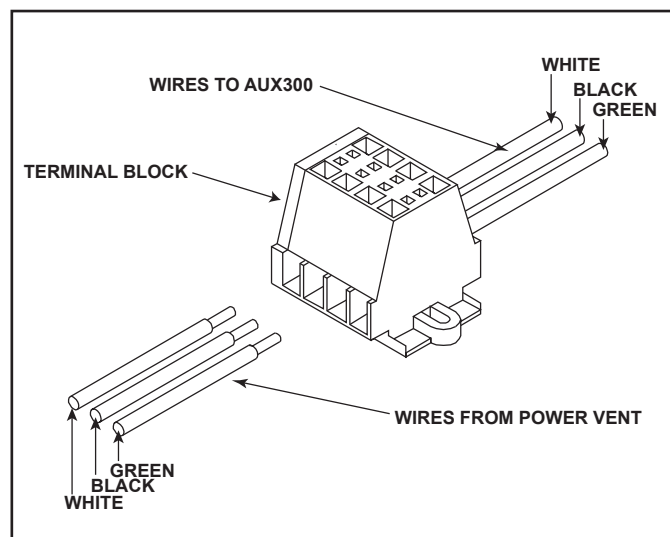

Figure 3. Terminal Block Detail
8. Connect the black, white, and green wires from the power vent assembly to the terminal block according to the wiring diagram. See Figure 3. Attach 1/4 inch male wiring connectors to red and brown wires from PVK-80 Power Vent. Place the PVK-80 terminal block assembly in the cavity under the fireplace behind the blower using provided velcro pads.